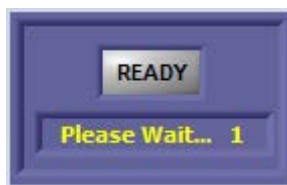

Figure 2.12
- f. To Prepare the Generator, press the Exposure switch's **PREP** button. A 2 second PREP display will be shown and turn **GREEN** when the unit is ready to Expose. Ref Fig. 2.12